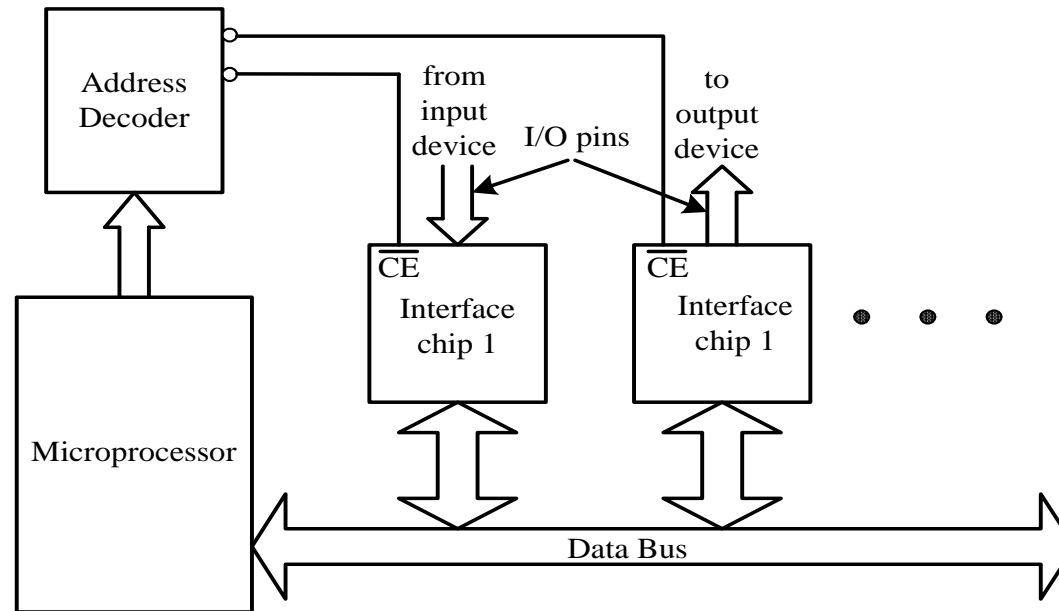

Figure 7.1 Interface chip, I/O devices, and microprocessor
- The interconnection between the microprocessor, interface chips, and I/O devices are shown in Figure 7.1.
- The address decoder in Figure 7.1 allows only one interface chip to exchange data with the microprocessor at a time.